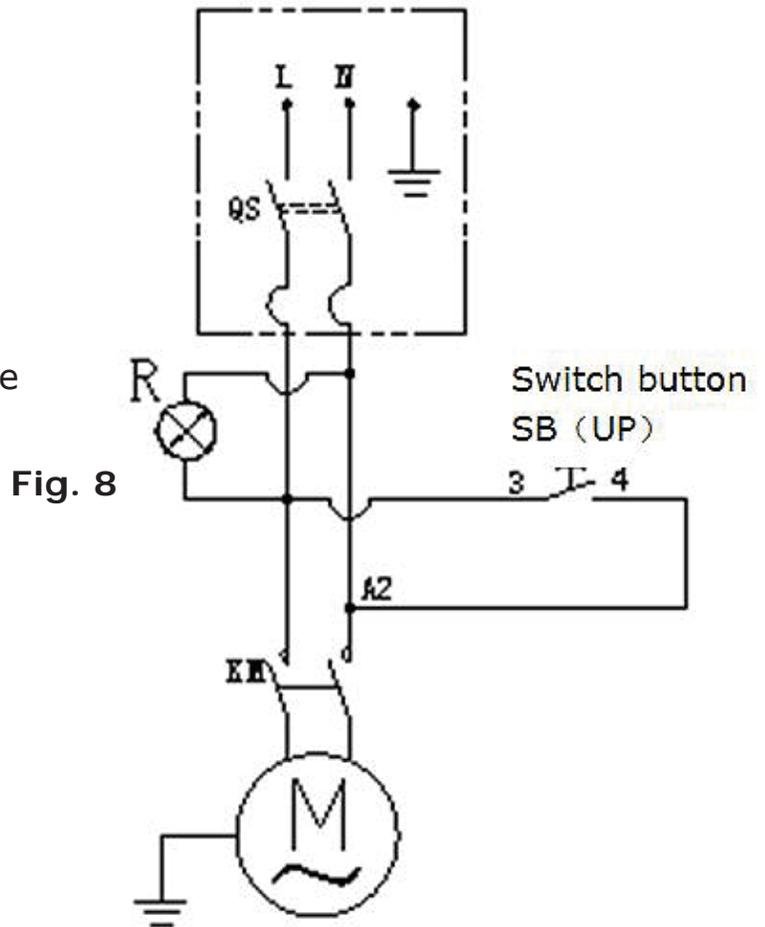

Fig. 8
1. Connect the wire according to the diagram. (Fig. 8)